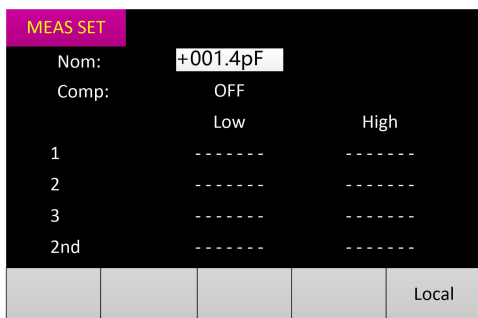

Fig.4-5
Step 1: Turn on the instrument to enter the interface of measurement display, press the **COMPARE** key to enter the Interface of Measurement Setting with the interface as shown in Fig.4-5.